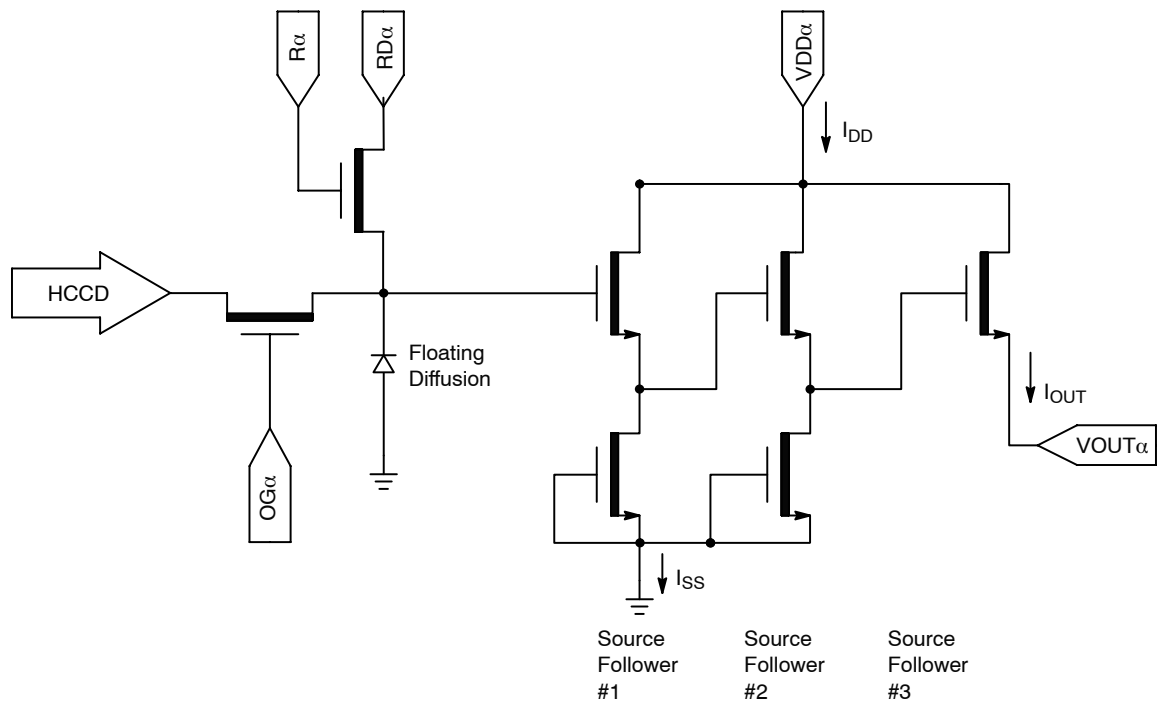

Figure 15. Output Amplifier
- The maximum DC current is for one output. I_{dd} = I_{out} + I_{ss}. See Figure 15.